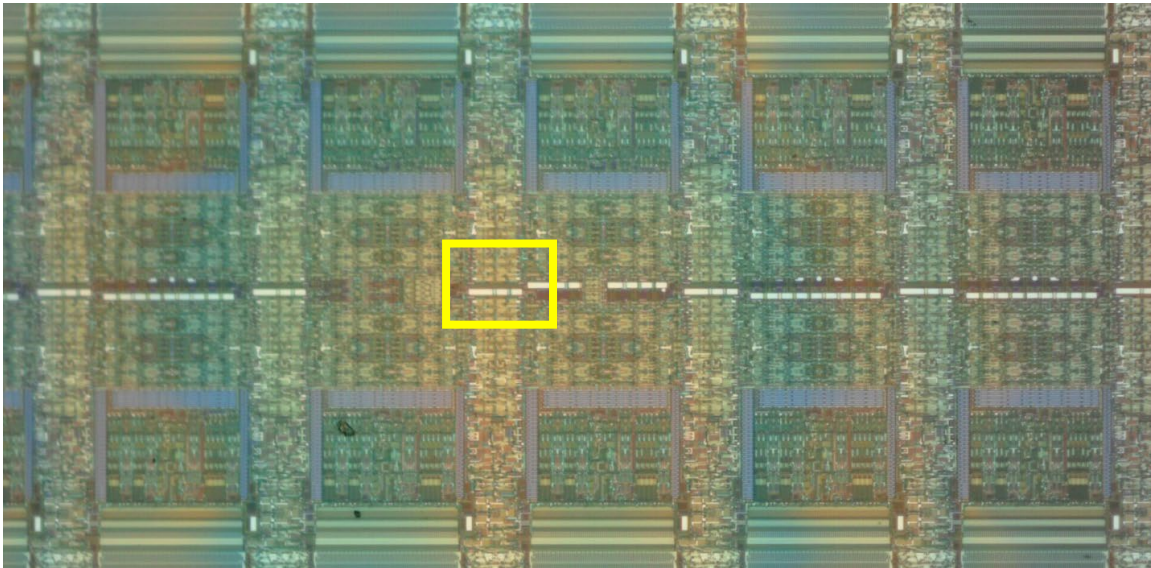

Figure 13a: Highlighted Area Shows Location of SEM Image Shown Below
- 20. Demount the sample from the platen (unless using the Pin Stub Platen). If adhesive contaminates the sample surface, sonicate in acetone or isopropanol for 5 minutes. Take final images of the ROI (*Figure 13a* and *b*).